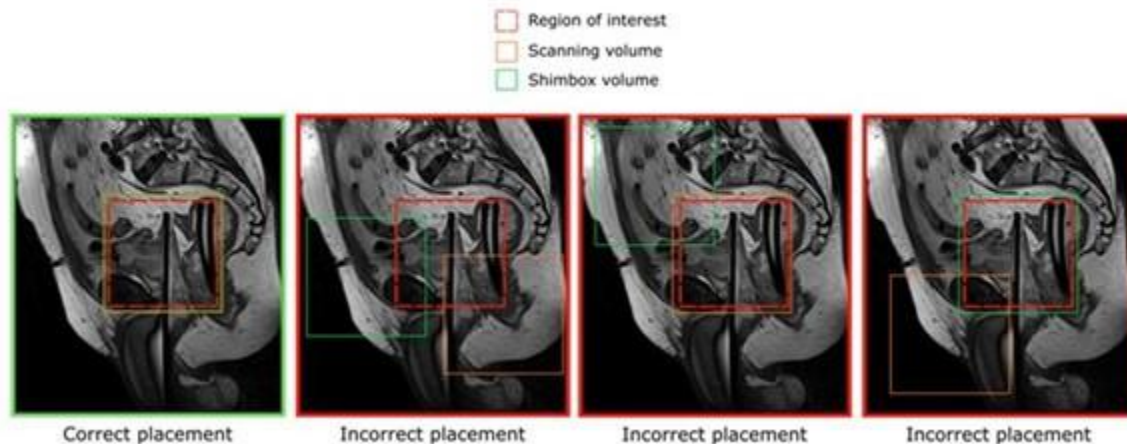

Figure 37: Examples of correct and incorrect placements of the shim box
1. **MRI Technologist:** Open AX THERM for editing in the Offc/Ang tab, change the AP, RL, and FH values for both Stack Offc. and Ang (*Figure 38*). to match those in TDC. Do the same for the shim volume. If the shim volume includes more than just the patient anatomy (e.g. air), reduce the size of the shim box (*Figure 37*).